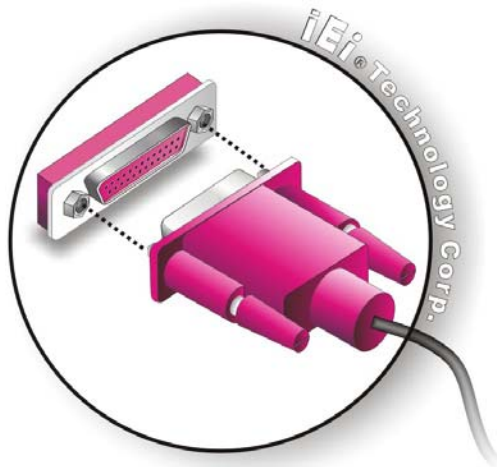

Figure 5-16: Connect the LPT Device
Step 5: Connect LPT device. Once the LPT interface connector is connected to the chassis, the LPT device can be connected to the LPT interface connector. See **Figure 5-16**